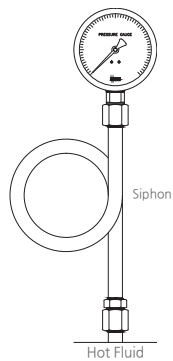

Figure. 2
- 3) If the gauge is dealing with a high temperature fluid, then Syphon tube is required so the adequate temperature can be delivered to the gauge. (Figure. 2)